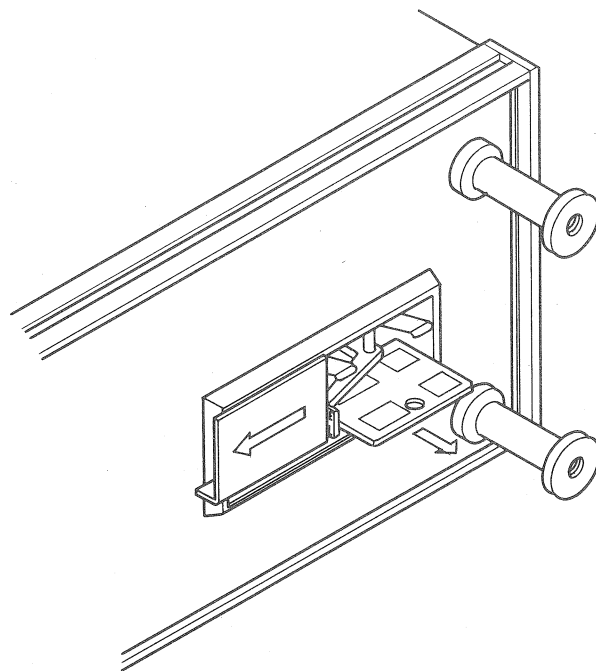

Fig. 7 When the print sheet for indicating voltage change has been pulled out
- 2) When the fuse is removed, a print sheet as the one shown in Fig. 7 is seen inserted under the clip. Take out this print sheet.